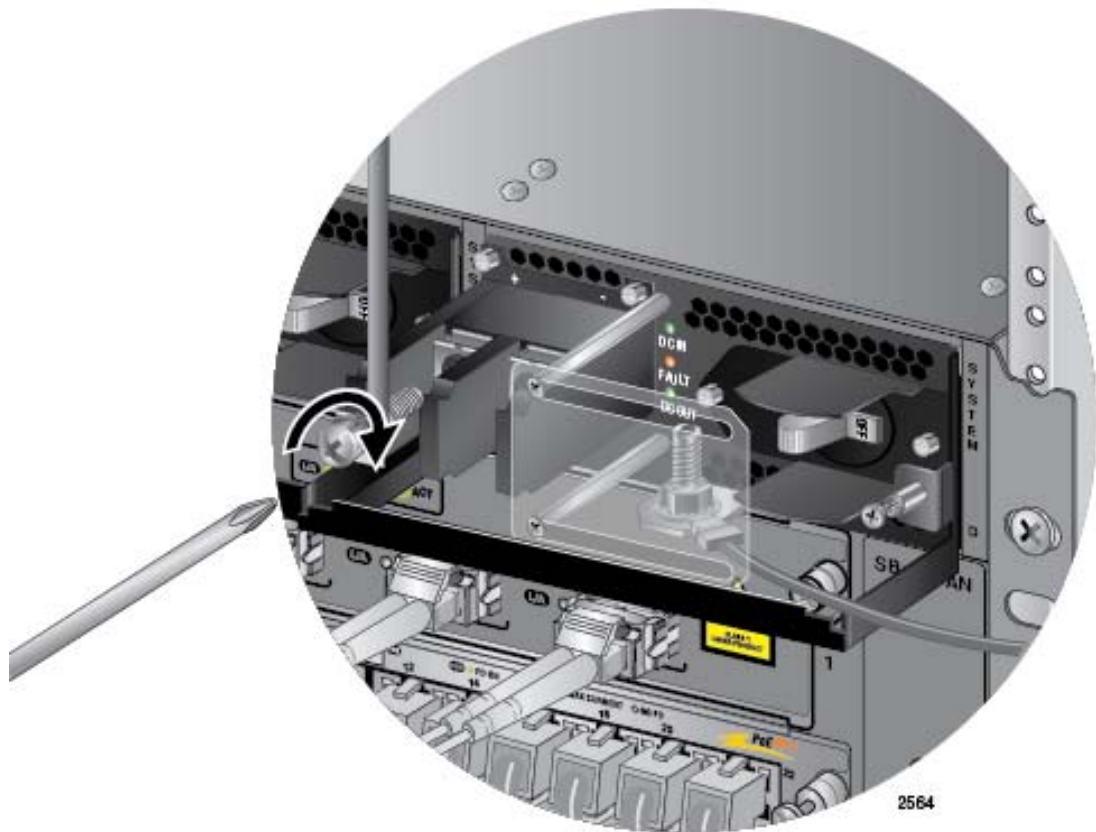

Figure 140. Connecting the Positive Wire
4. Wrap the positive lead wire clockwise around one of the terminal screws and secure the screw and wire to the positive terminal connection on the terminal block with a #3 Phillips-head screwdriver. The positive terminal is on the left. You may attach the wire to the terminal so that it extends either above or below the terminal block. Figure 140 shows the wire above the terminal block. Allied Telesis recommends tightening the screw to 30 to 40 inch-lbs.